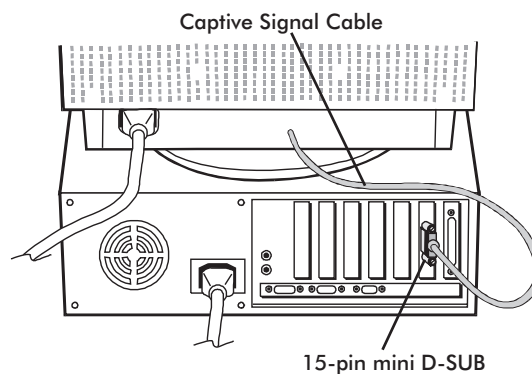

Figure A.1
3. **For the PC:** Connect the 15-pin mini D-SUB of the captive signal cable to the connector of the display card in your system (Figure A.1). Tighten all screws.